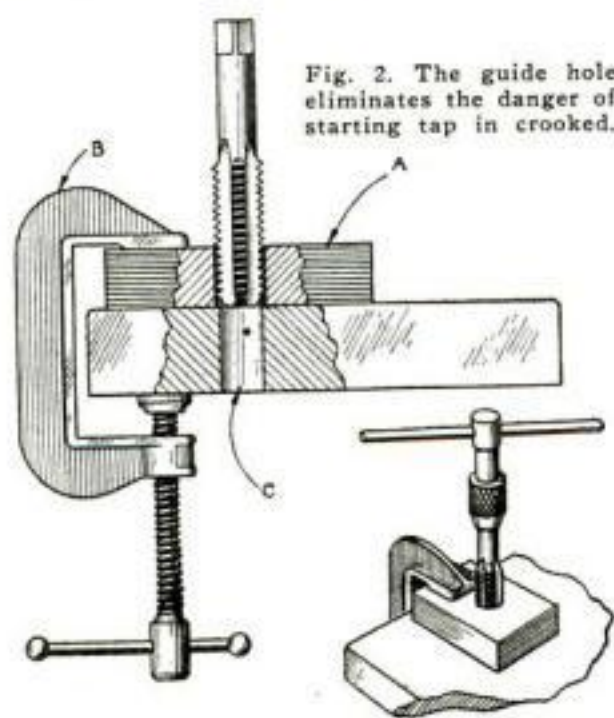

Fig. 2. The guide hole eliminates the danger of starting tap in crooked.
**B**Y THE application of the simple bink shown in Fig. 2, it is possible to eliminate any possibility of starting a tap crooked.